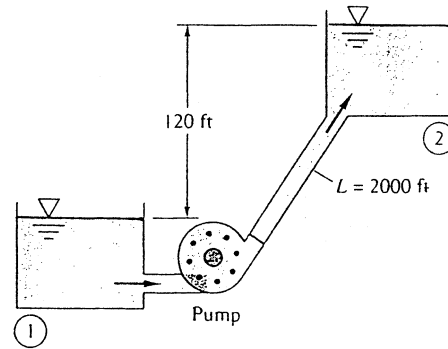

Fig. P6.62
6.62 Water at 20°C is to be pumped through 2000 ft of pipe from reservoir 1 to 2 at a rate of 3 ft³/s, as shown in Fig. P6.62. If the pipe is cast iron of diameter 6 in and the pump is 75 percent efficient, what horsepower pump is needed?